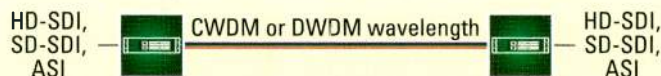

Figure 2. Venue or studio to production facility over leased wavelength
- *Configuration 2.* A simple point-to-point video connection over a wavelength. (See Figure 2.)